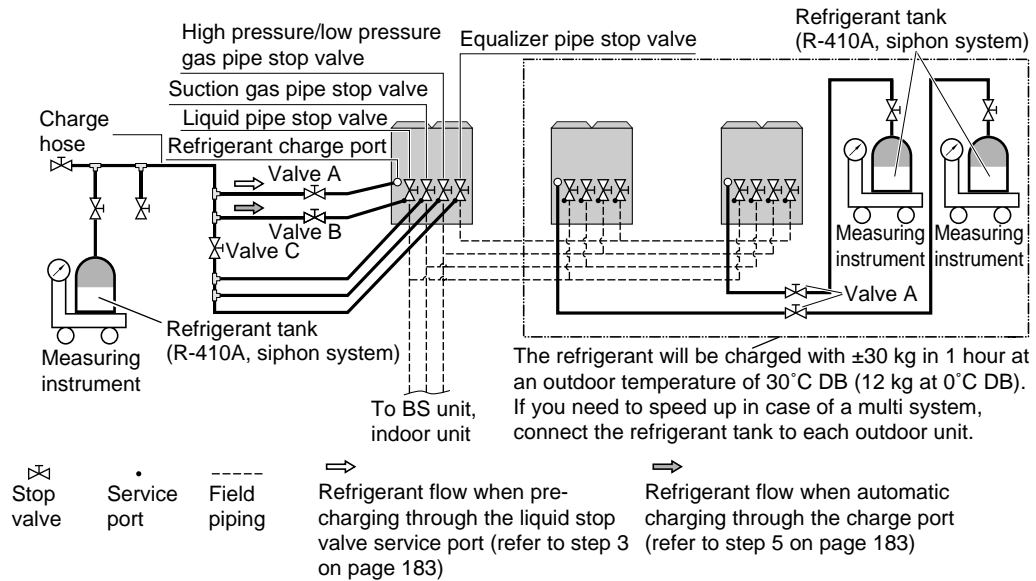

figure 24
3. Open valve B (the valves A and C, the liquid pipe, the suction gas pipe, the high pressure/ low pressure gas pipe and the equalizer pipe stop valves must be left closed) and charge the refrigerant in liquid form via the liquid pipe stop valve service port. (See figure 24)
5. After pre-charging, perform the refrigerant charge operation as shown below and charge the remaining refrigerant of the additional charging amount through valve A. (See figure 24)
For a multi outdoor unit system, it is not required to connect all charge ports to a refrigerant tank. The refrigerant will be charged with ± 30 kg in 1 hour time at an outdoor temperature of 30°C DB or with ± 12 kg at an outdoor temperature of 0°C DB. If you need to speed up in case of a multiple outdoor system, connect the refrigerant tanks to each outdoor unit as shown in figure 24.